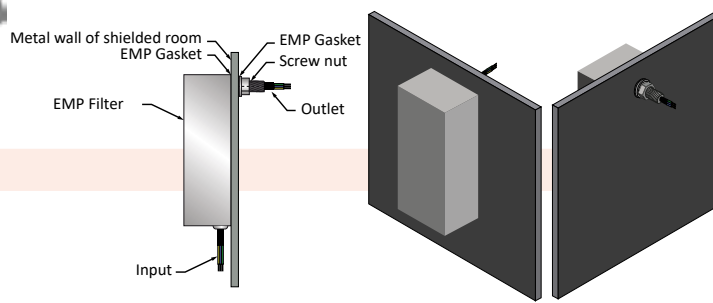

Figure 64: Example of a power line filter mounted on a Faraday cage wall
- 64 Filters for power, signals and data.** A power line coming from the grid function as an antenna of immense length and brings many unwanted frequencies with it. It has to be "cleaned" by a filter before entering the shielded room. The same goes for signal lines and pipes going into the housing. They will work as an antenna and interfere with the shielding. (Fig. 64)